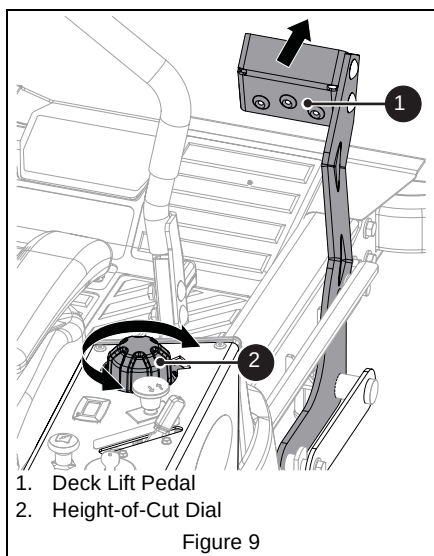

Figure 9
5. Set cutting height. See Figure 9.